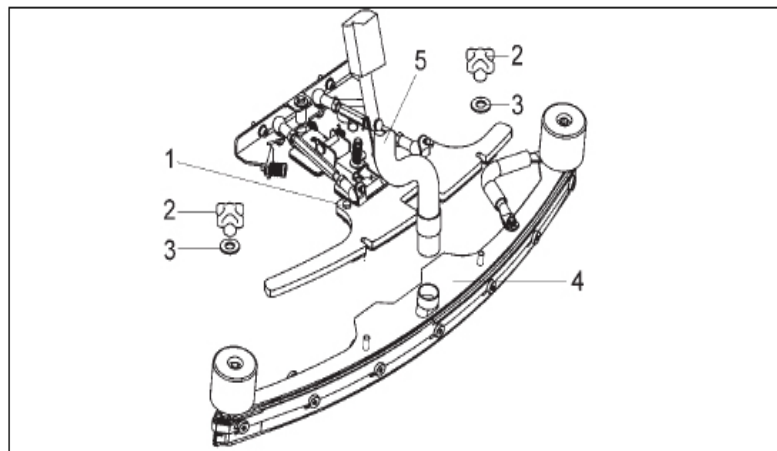

Figure 17 - Installing and Removing Squeegee tool
Refer to Figure 17 for items in the procedure:
1. Lower squeegee mount (1)
4. Fasten squeegee tool (4) to squeegee mount (1) according to (Figure 17)
5. Attach suction hose (5) to squeegee tool.
4. Unplug suction hose (5) from squeegee tool
5. Unscrew star-shaped knobs (2)
6. Pull squeegee tool (4) towards bottom and remove (Figure 17).
1. Remove squeegee tool according to Figure 17.